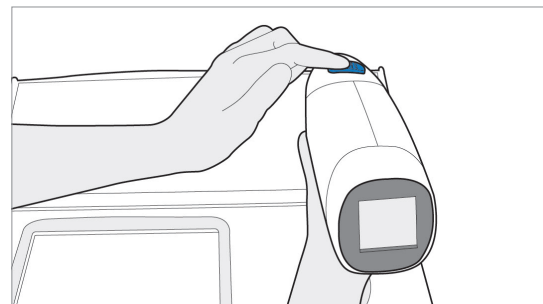

Figure 30 Needle Depth Setting
8. Set the needle depth on the Handset based on the recommendation of the system and clinical judgment regarding the needle length required to safely electroporate the intended deltoid or anterolateral quadriceps (see Figure 30).